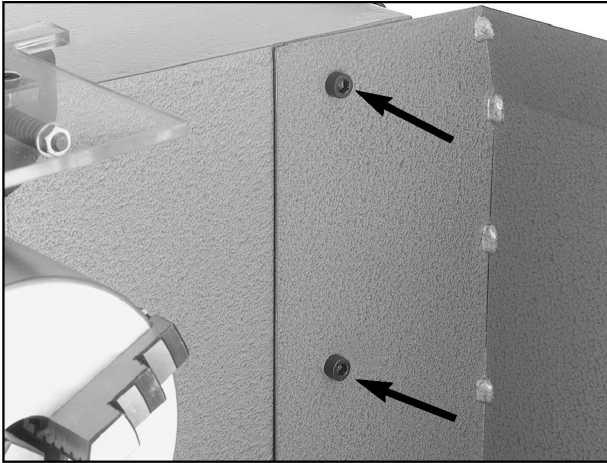
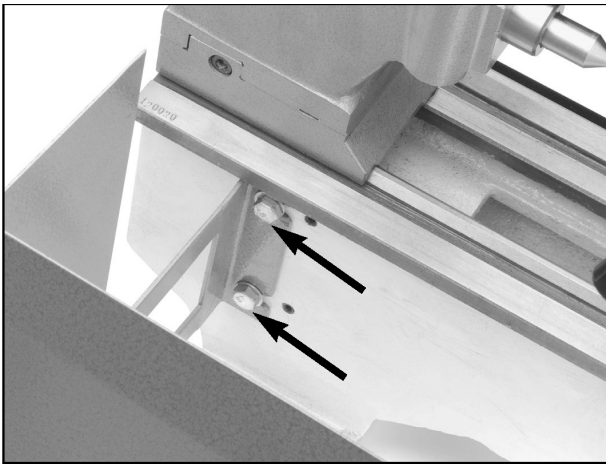

Figure 1. Two cap screws secure the left-hand side of the back splash to the lathe.
Figure 2. Two hex bolts / washers secure the right-hand side of the back splash to the lathe.
2. Hold the backsplash against the back of the lathe so all of the mounting holes are aligned, and instruct your assistant to secure the back splash with the (2) M6-1x10 cap screws as shown in **Figure 1** and (2) M8-1.25x15 hex bolts and washers as shown in **Figure 2**.